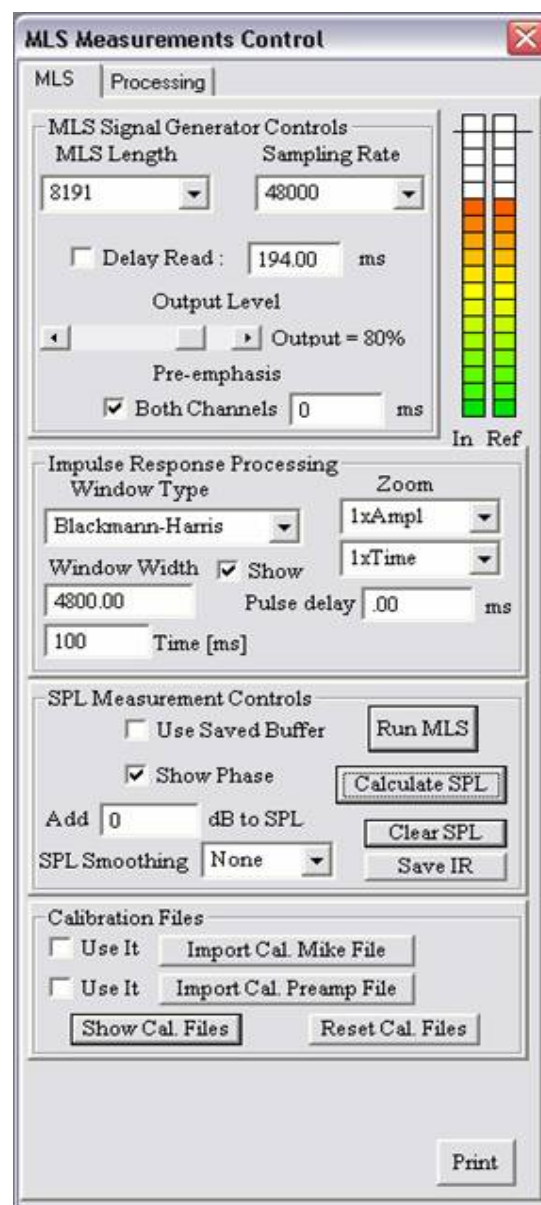

Figure 29. MLS control setting for Loop Test.
- Set the MLS controls as shown in Figure 29.